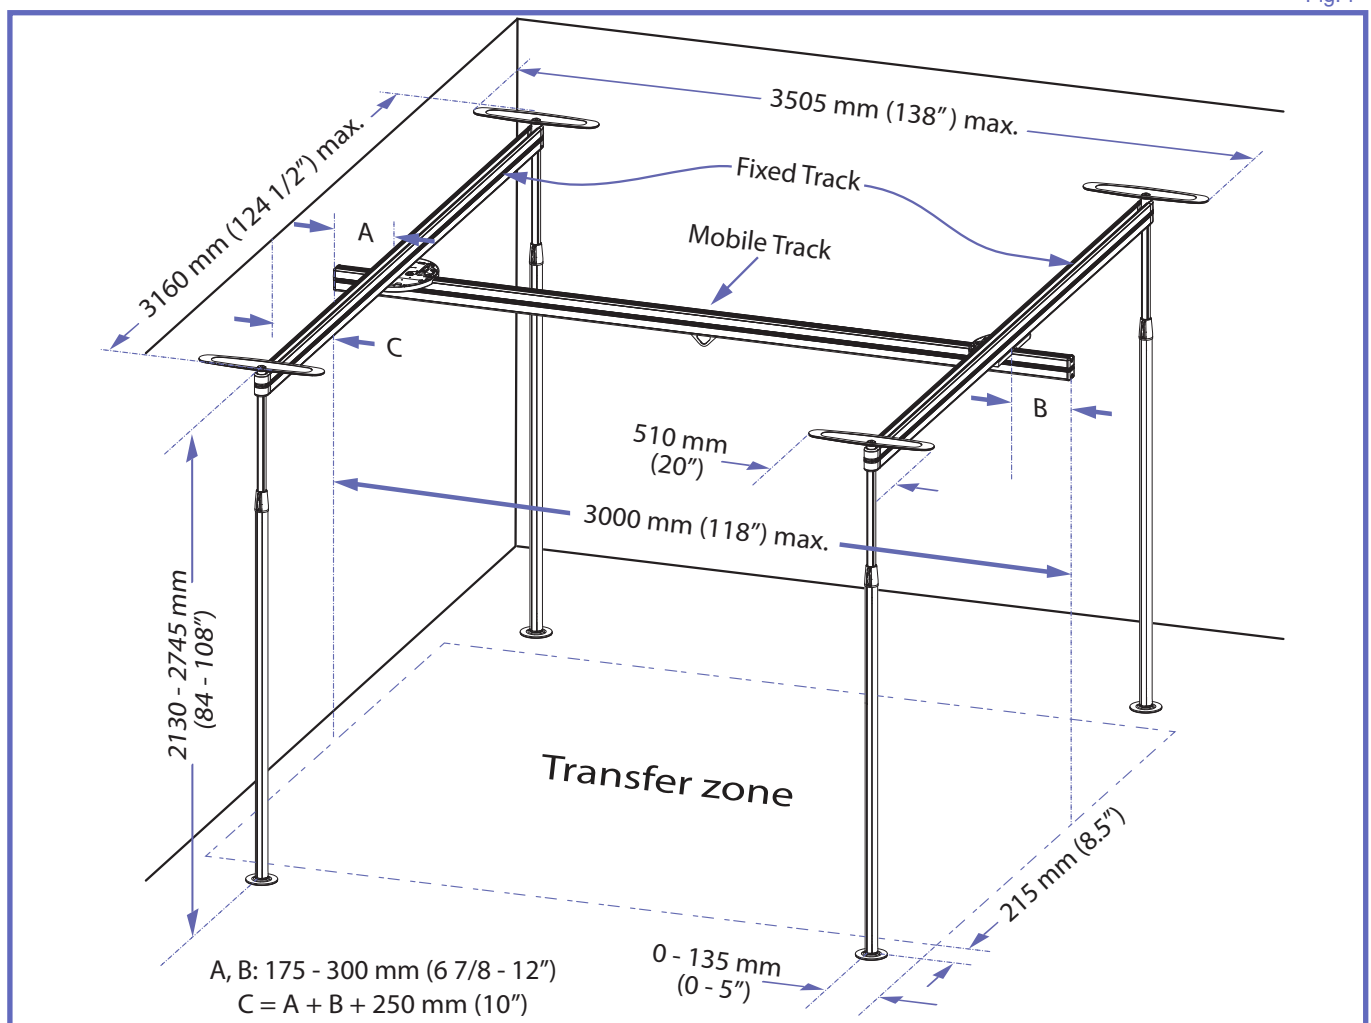

Fig.5
- 3) Referring to Fig.5, determine the location for the four posts considering the following: